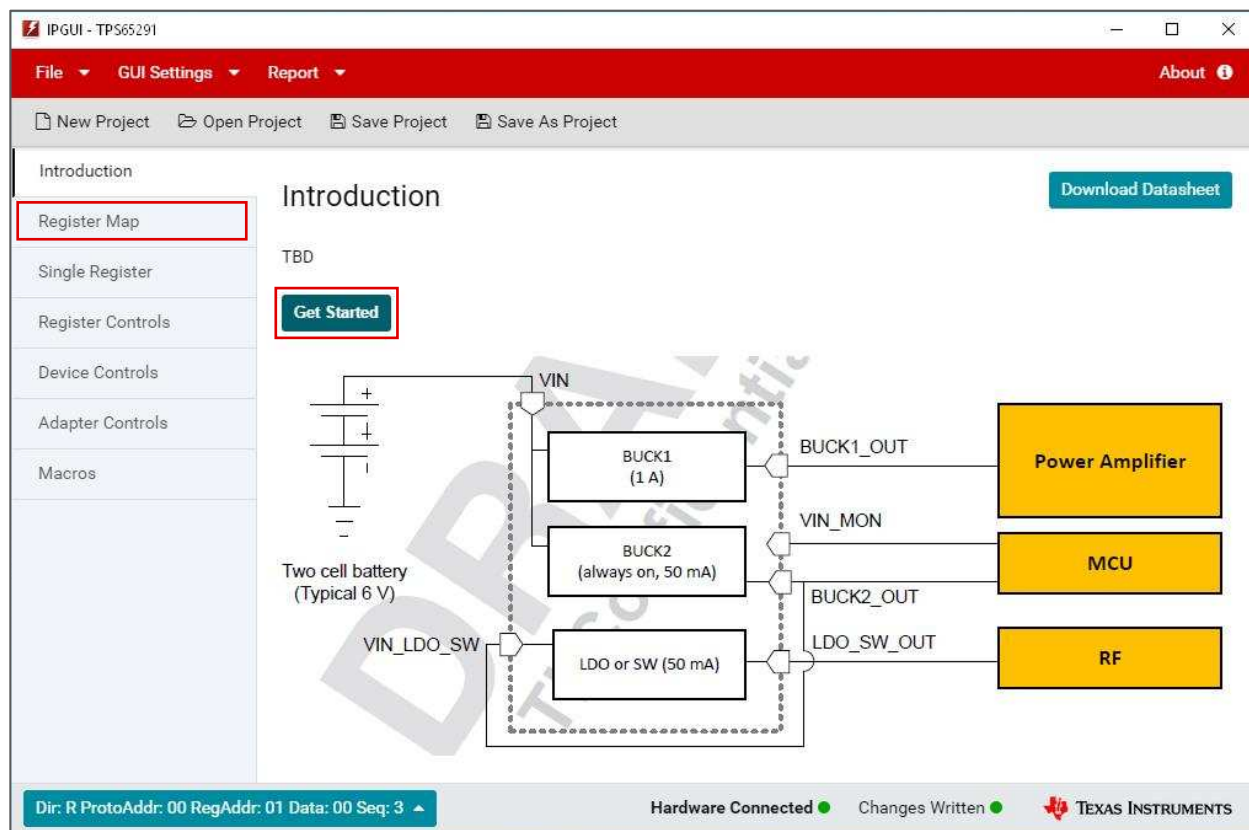

Figure 21. TPS65291 SPI Project Introduction Tab in IPG-UI
- Click the *Get Started* button or the *Register Map* tab shown in Figure 21 to begin reading from and writing to registers to evaluate the TPS65291 device.